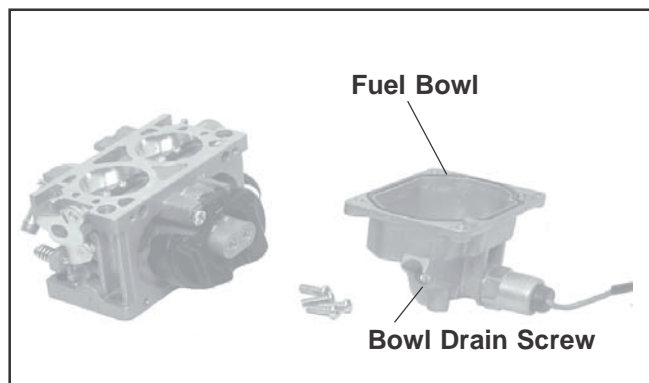

Figure 5-12. Fuel Bowl Removed From Carburetor.
2. Clean the exterior surfaces of dirt or foreign material before disassembling the carburetor. Remove the four mounting screws and carefully separate the fuel bowl from the carburetor. Do not damage the fuel bowl O-Rings. Transfer any remaining fuel into an approved container. Save all parts. Fuel can also be drained prior to bowl removal by loosening/removal of the bowl drain screw. See Figure 5-12.